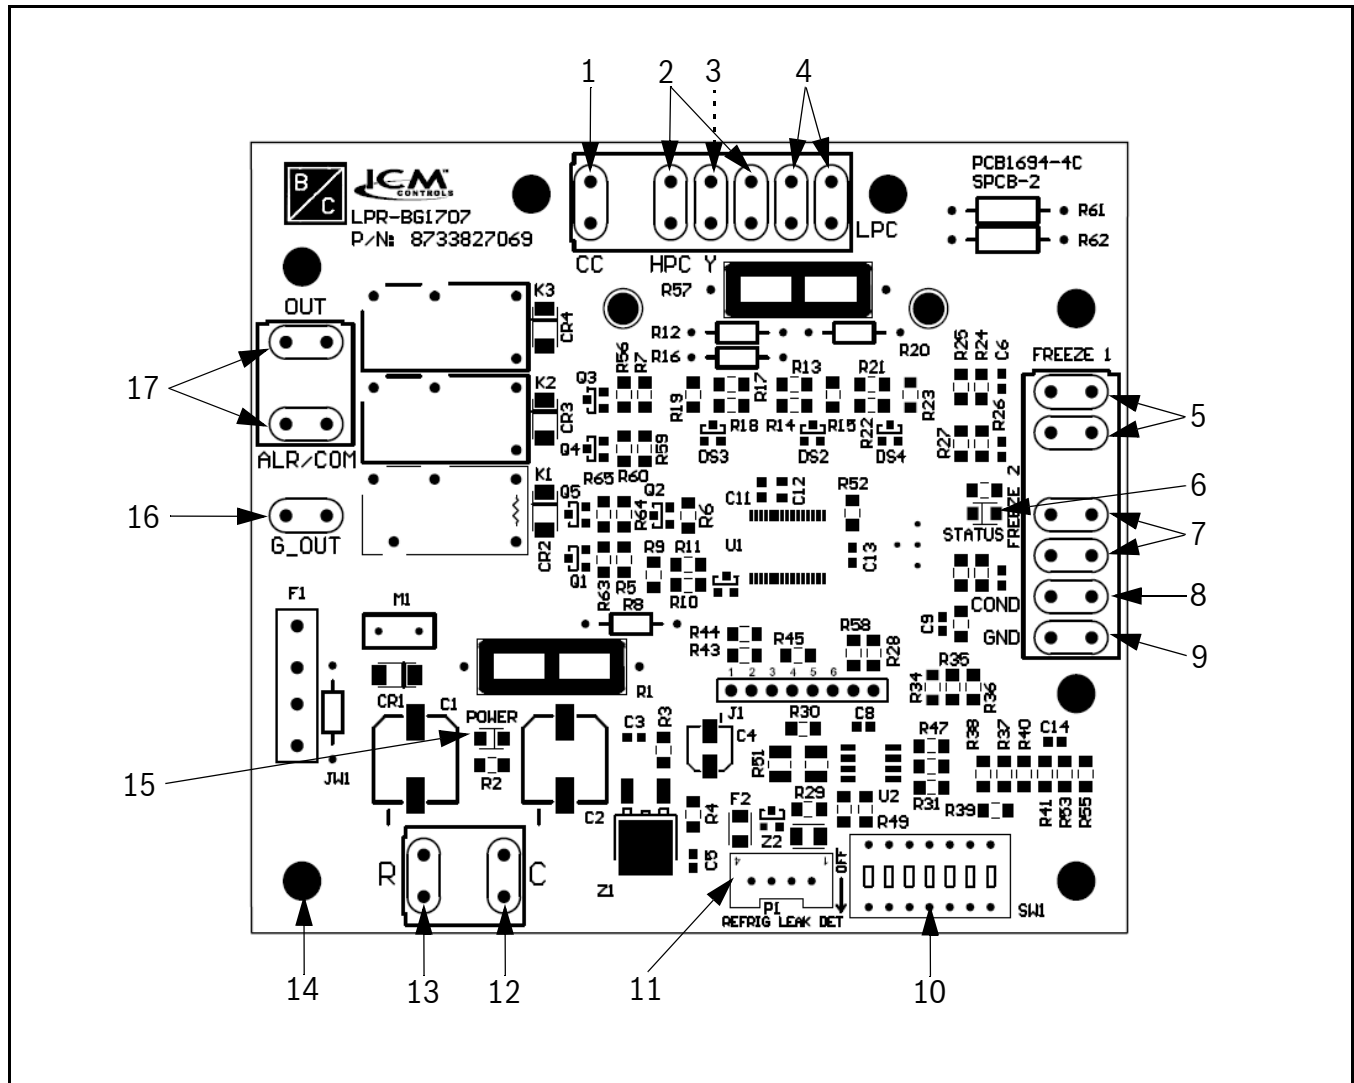
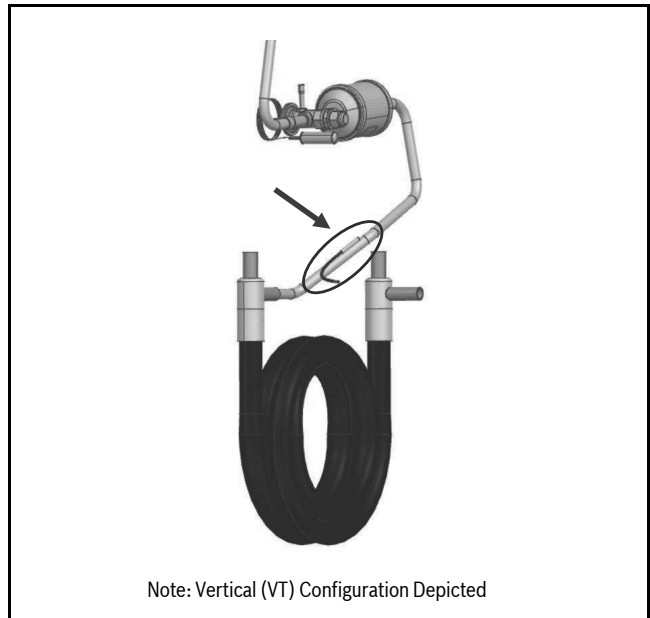
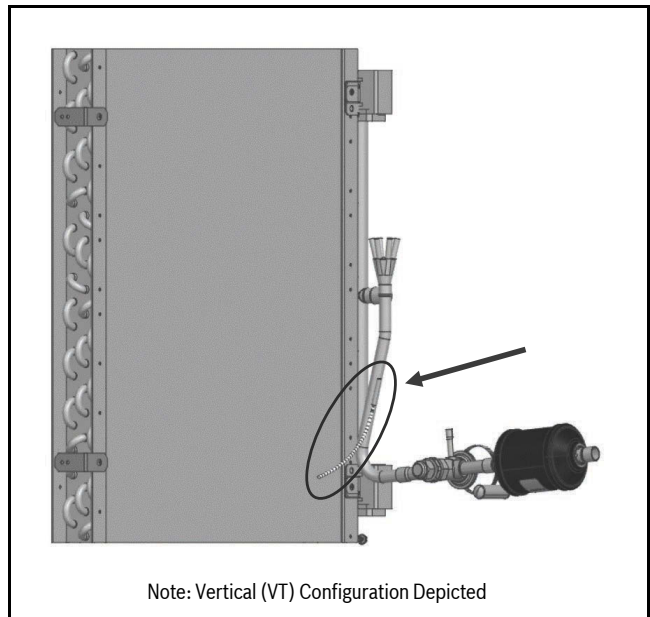
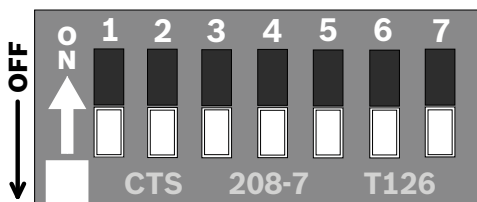

Fig. 17 UPM Controller Board
Fig. 18 Waterside Freeze Protection Sensor Location (FREEZE 1)
Fig. 19 Air Coil Freeze Protection Sensor Location (FREEZE 2)
Fig. 20 UPM Settings DIP Switch (SW1)
- Waterside freeze protection sensor (FREEZE 1), mounted close to condensing water coil (→Refer to Fig. 18), monitors refrigerant temperature between condensing water coil and thermal expansion valve. If temperature drops below or remains at freeze limit trip for 120 seconds, the controller will shut down the compressor and enter into a soft-lockout condition. The default freeze limit trip is 25°F; however, this can be changed by flipping DIP switch SW1. (→Refer to Fig. 17, item [10].)(→Refer to Fig. 20.)
- Air coil freeze protection sensor (FREEZE 2), mounted between the thermal expansion device and the air coil (→Refer to Fig. 19), monitors refrigerant temperature between the air coil and thermal expansion valve. If temperature drops below or remains at the freeze limit trip for 30 seconds, the controller will shut down the compressor and enter into a soft-lockout condition. The default freeze limit trip is 25°F.
- The condensate overflow protection sensor is located in the drain pan of the unit and connected to the “COND” terminal on the UPM board. (→Refer to Fig. 17, item [8].)
- **TEST DIP SWITCH:** The DIP switch position “4” controls the Test function. When it is set to “ON,” it will reduce all time delays settings to 10 seconds during troubleshooting or verification of unit operation. (→Refer to Fig. 17, item [10]) (→Refer to Fig. 20)
- **MALFUNCTION OUTPUT:** Alarm output is Normally Open (NO) dry contact. If pulse is selected the alarm output will be pulsed. The fault output will depend on the DIP switch setting for "ALARM." (→Refer to Fig. 17, item [10]) (→Refer to Fig. 20.) If DIP switch position “3” is set to “ON,” a constant signal will be produced to indicate a fault has occurred and the unit requires inspection to determine the type of fault. If it is set to “OFF,” a pulse signal is produced and a fault code is detected by a remote device indicating the fault. (→For blink code explanation, see Table 9.) The remote device must have a malfunction detection capability when the UPM board is set to "PULSE."
- FREEZE SENSOR:** The default setting for the freeze limit trip is 25°F (FREEZE 1); however, this can be changed to 15°F by flipping the DIP switch position “5” (→Refer to Fig. 17, item [10]) (→Refer to Fig. 20), freeze limit trip should only be changed to 15°F when a closed loop system with appropriate antifreeze mixture is used. **Since Freeze Sensor 2 is dedicated to monitor the load side coil it is recommended to leave the factory default setting on the board.** The UPM controller will constantly monitor the refrigerant temperature with the sensor (FREEZE 1) mounted close to the condensing water coil between the thermal expansion valve and water coil. If temperature drops below or remains at the freeze-limit trip for 120 seconds, the controller will shut the compressor down and enter into a soft-lockout condition. Both the status LED and the alarm contact will be active. The status LED will be active, blinking the fault code. The LED will flash (three times) the code associated with this alarm condition. If this alarm occurs two times (or four if DIP switch position “1” is set to “ON”) within an hour the UPM controller will enter into a hard-lockout condition. It will constantly monitor the refrigerant temperature with the sensor (FREEZE 2) mounted close to the air coil between the thermal expansion valve and air coil as shown in Fig. 19. If temperature drops below or remains at the freeze limit trip for 120 seconds, the controller will shut the compressor down and enter into a soft-lockout condition. Both the status LED and the alarm contact will be active. The
(→Refer to Fig. 17, item [10]) (→Refer to Fig. 20)
- PUMP DIP SWITCH:** When DIP switch position “7” is set to “ON” and no Y call has been received in the past 8 hours, the compressor will have a delay of 30 seconds to allow a loop pump to circulate water before compressor starts. (→Refer to Fig. 17, item [10]) (→Refer to Fig. 20)